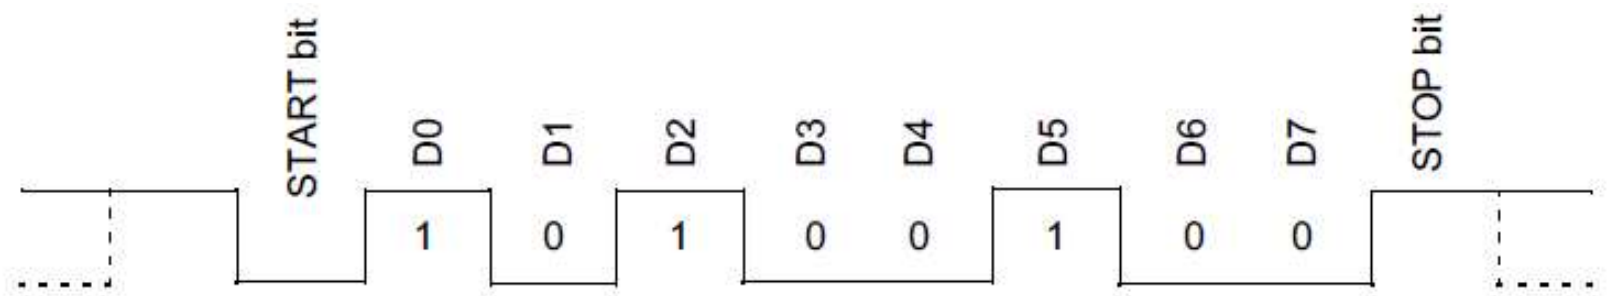

Figure 9: Asynchronous Mode Signal
- Figure 9 represents the signal on the TX or RX pins of the uC